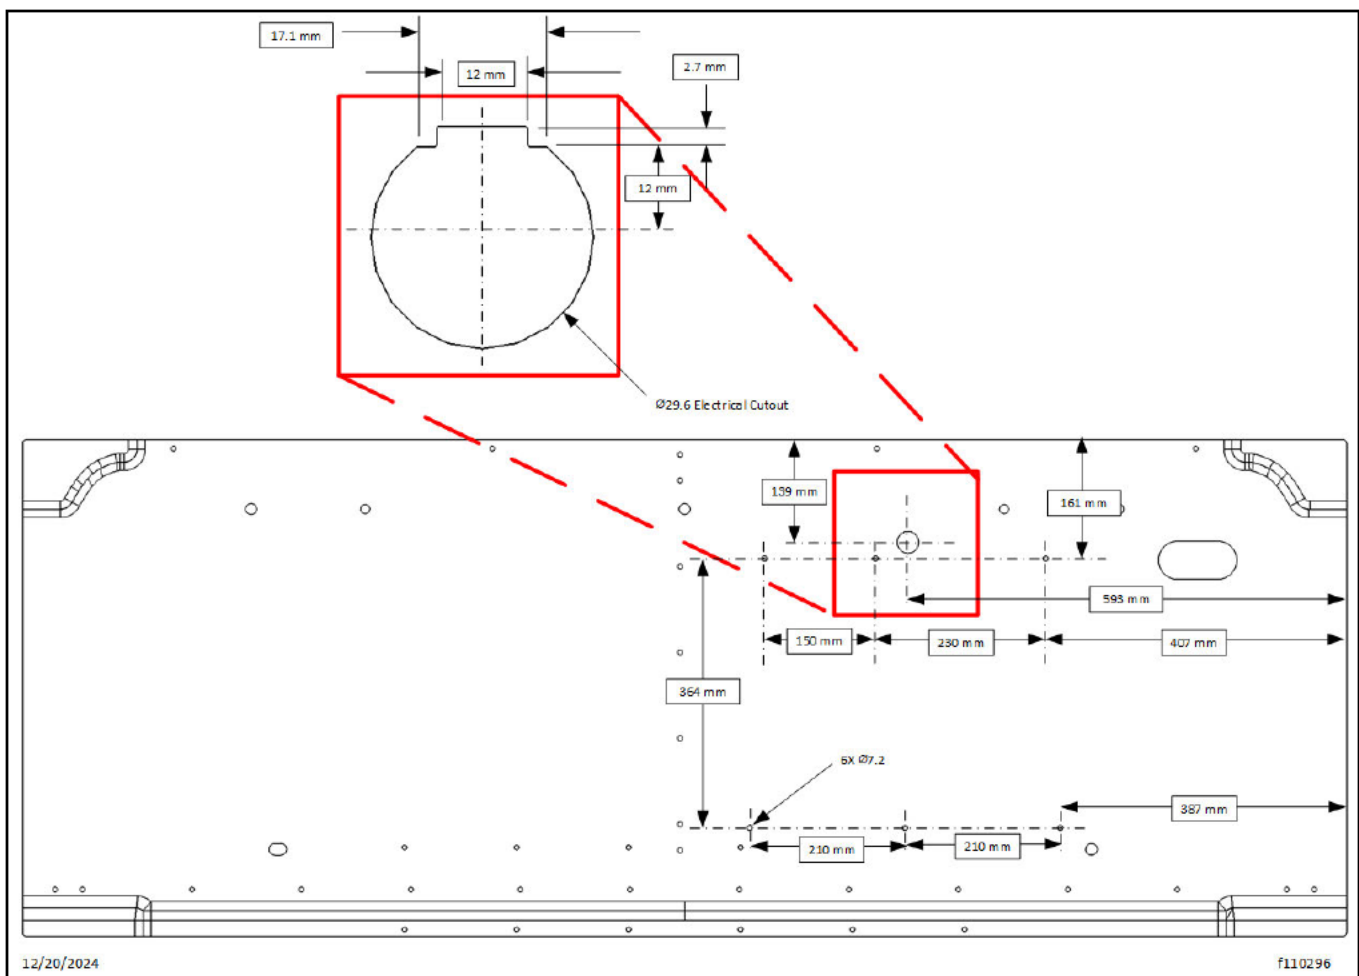
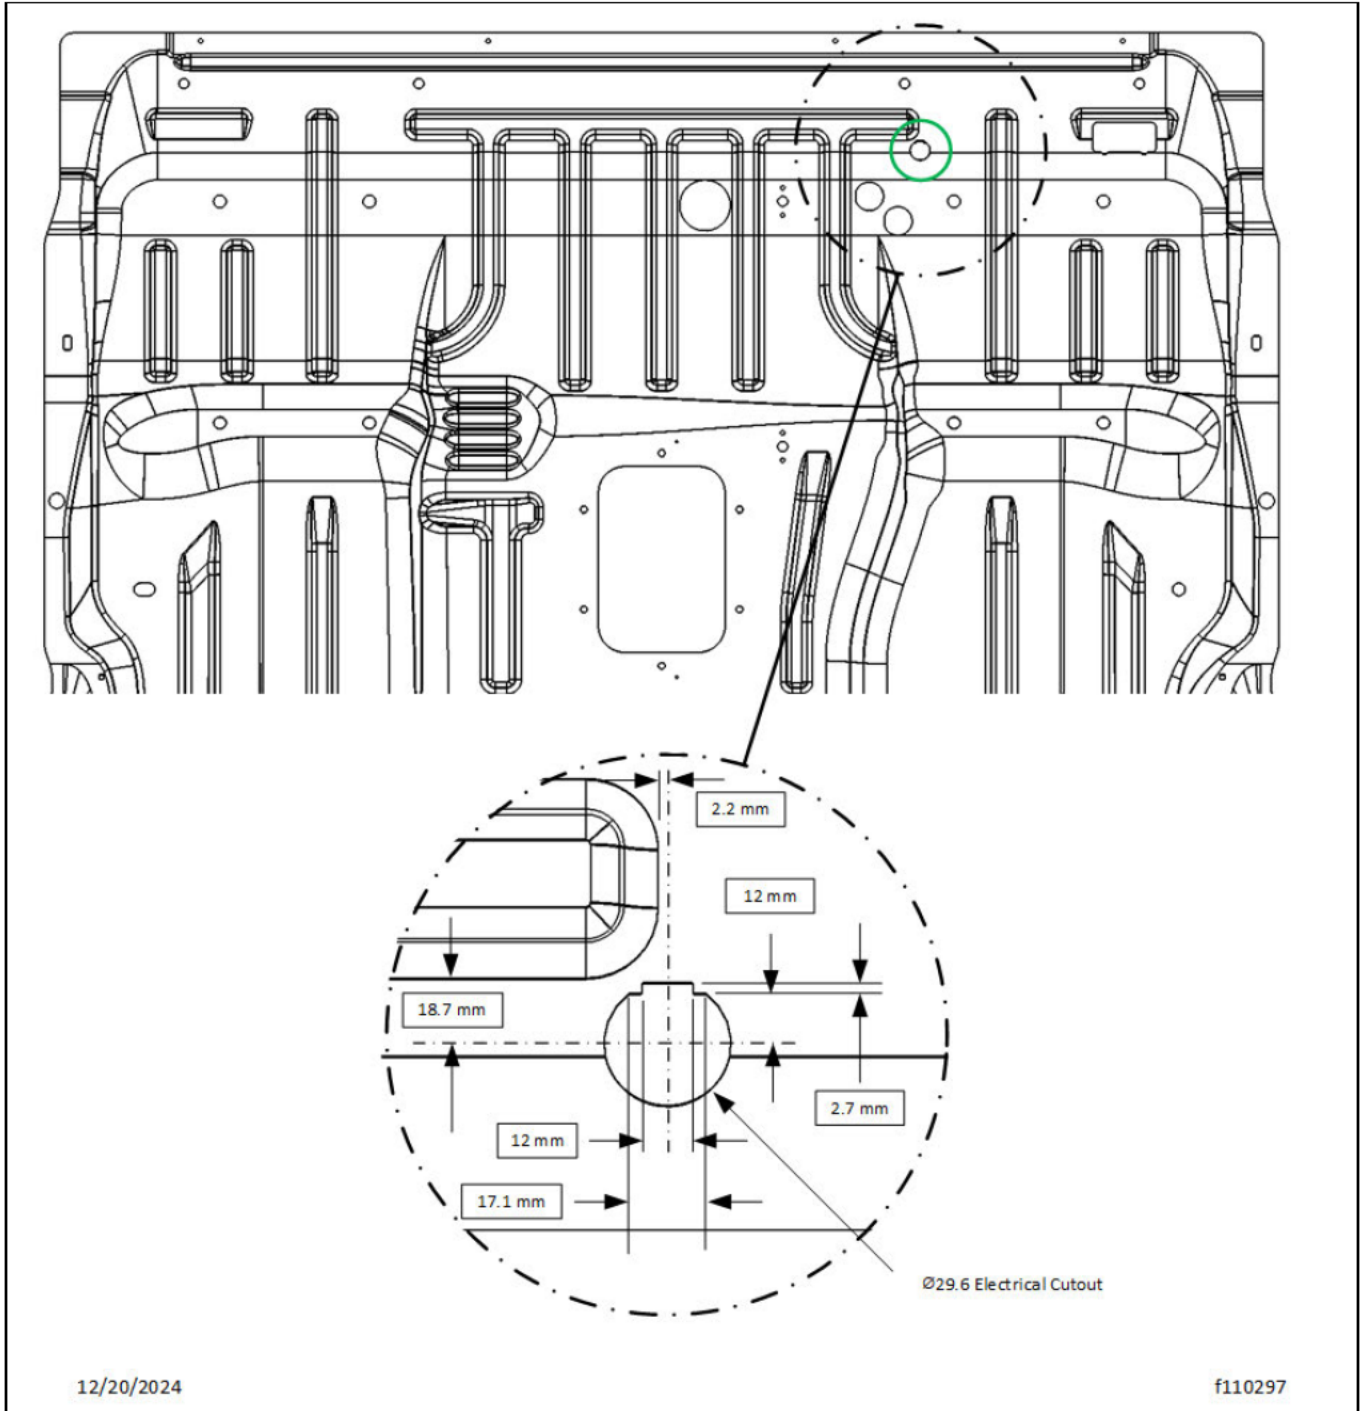

Fig. 5, Extended Cab Floor Drilling and Electrical Cutout
Fig. 6, Day Cab and Crew Cab Electrical Cutout
2. Measure the cab floor for the cut-out as illustrated in **Fig. 5**, **Fig. 6**, and **Fig. 7**. The 30-mm hole saw is shown in **Fig. 8**.